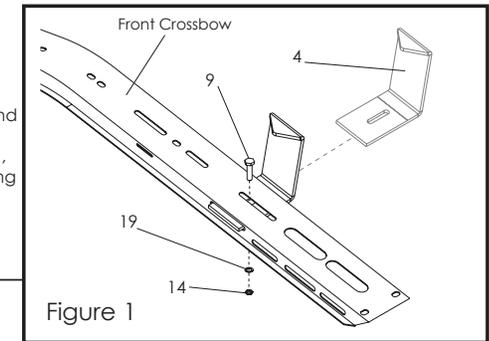

Figure 1
Insert the (1) FRONT STOP (Item 4) through the slots in the **front** CROSSBOW, and align so that the vertical section of the FRONT STOP touches the CROSSBOW. Secure together with (1) 3/8" x 1" CARRIAGE BOLT (Item 9), (1) 3/8" FLAT WASHER (Item 19), and (1) 3/8" NUT (Item 14). Bolt head should be facing upward. See Figure 1.